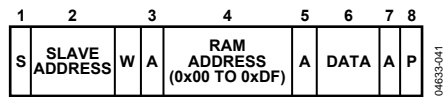

Figure 36. Single Byte Write to the RAM
- To write a single byte of data to the RAM. In this case, the command byte is RAM Address 0x00 to RAM Address 0xDF, and the only data byte is the actual data, as shown in Figure 36.